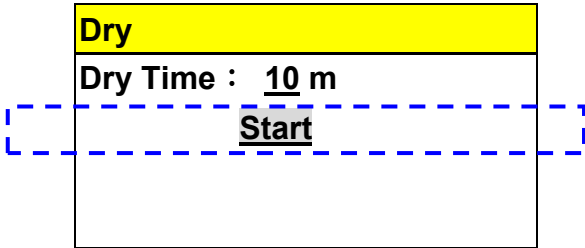
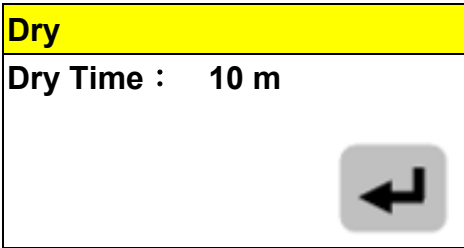

Figure 69
Figure 70
E. Press  or  button to move the cursor to the “Start” (Figure 69), change the dry time, and then press  button to confirm dry time, as shown in Figure 70.